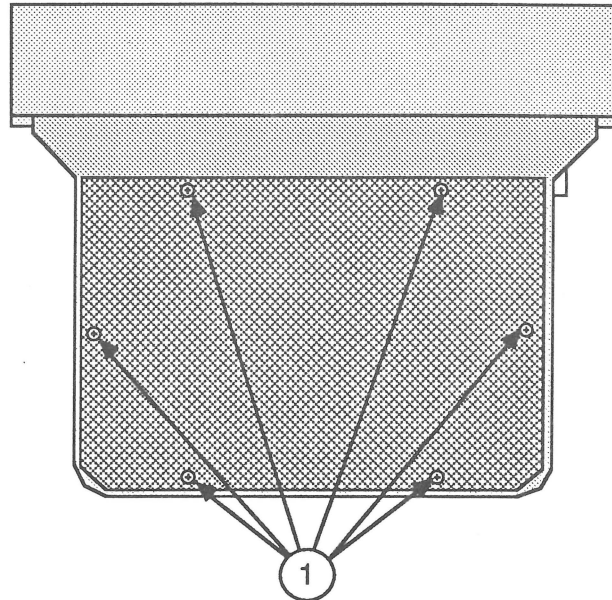

FIGURE 5
2. Remove the six screws and lockwashers (Figure 5, #1) that hold the access cover in place.
2. Replace the six Phillips screws and lockwashers (Figure 5, #1).